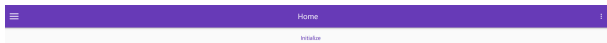

Figure 3. Initialization Interface
- 3) The initialization interface is displayed, as shown in following figure 3.